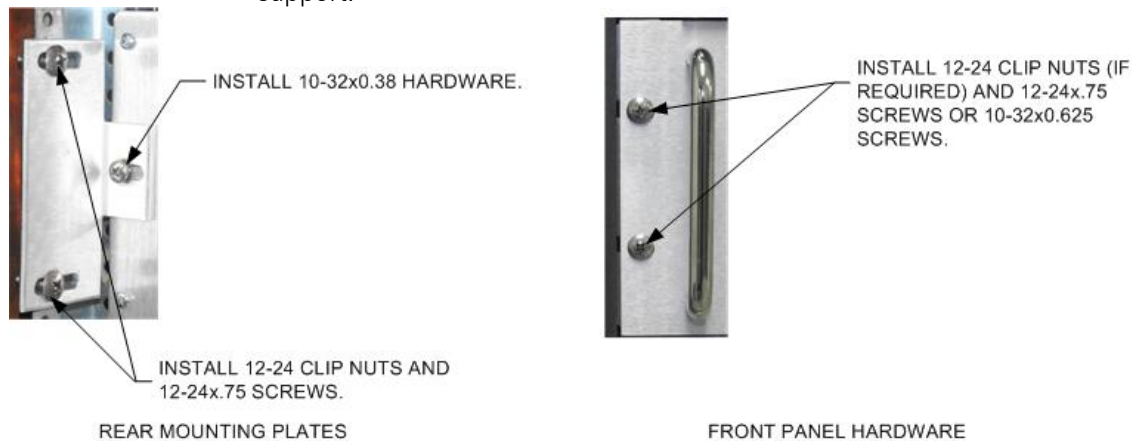

FIGURE 4. RACK INSTALLATION
2. Refer to Figure 4 and install the unit in the rack using the mounting hardware located in the installation kit.
3. Refer to Figure 4 and install the rear mounting plates as shown. If the rack is not equipped with rear rails, modify the rack to provide rear support.